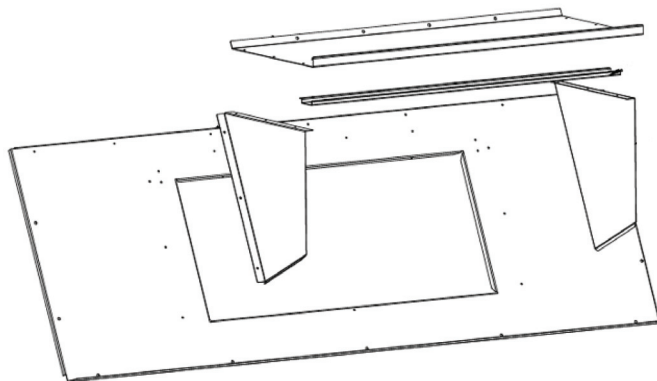

Fig. 33 — Barometric Hood Exploded View
3. Install parts as shown in the following exploded view (Fig. 33) using the seal strip and screws provided in the parts box.